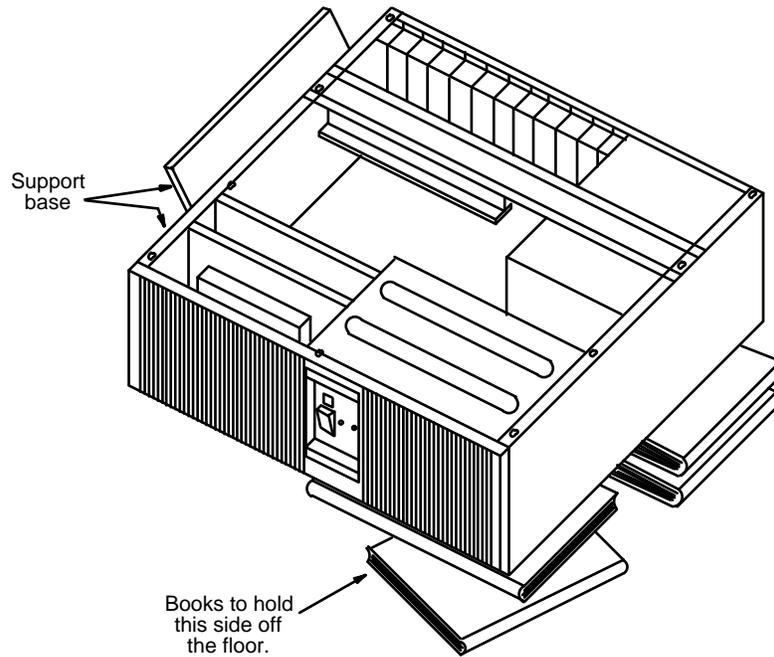

Figure 2-3. Working within the Card Cage - Floor Position
- ii. Turn the MAP/40 on its side, resting the side of the computer opposite from the support base on the two books. See Figure 2-3.